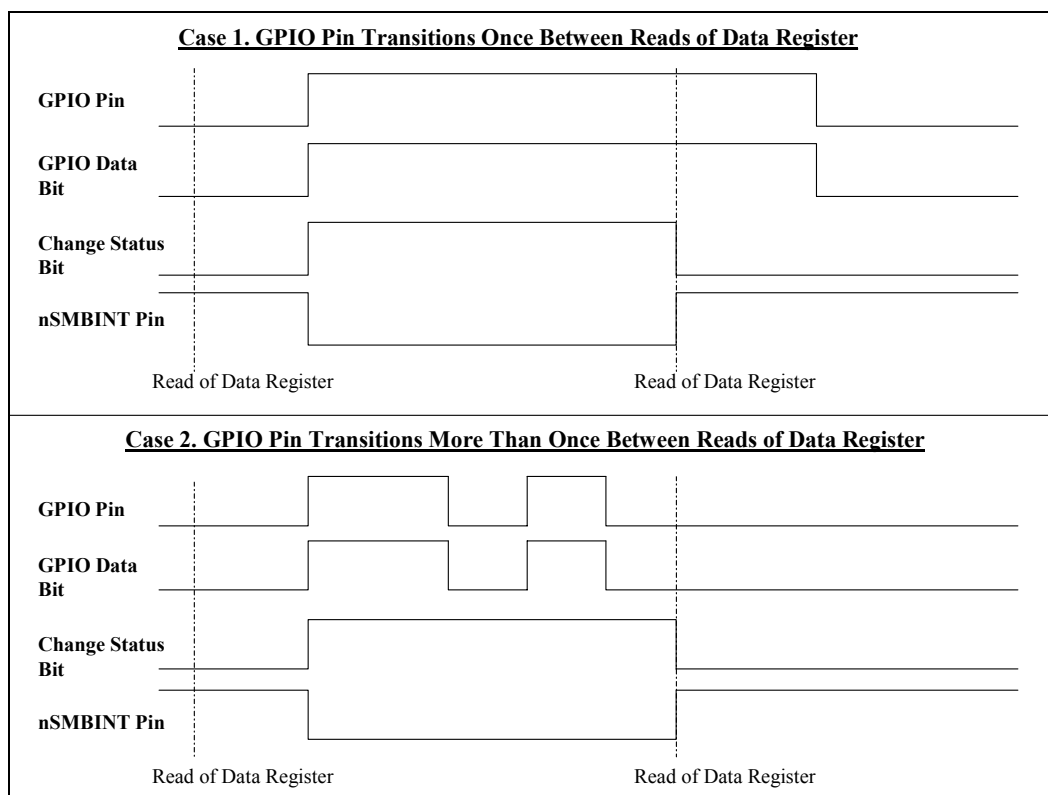

Figure 15.2 - GPIO Transition Cases
- If a GPIO pin changes more that once in between reads of the data register, the interrupt remains active but the data bit will transition (as in case 2 of Figure 15.2 below).
Figure 15.2 shows two cases of GPIO transitions and the generation of the SMBus interrupt .